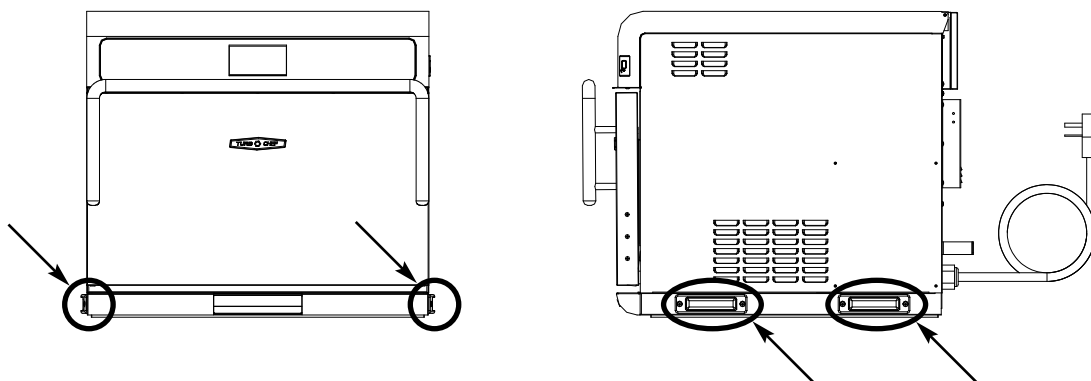

Figure 2: Hand Grip Locations
3. Place hands into grips (see Figure 2) and lift.